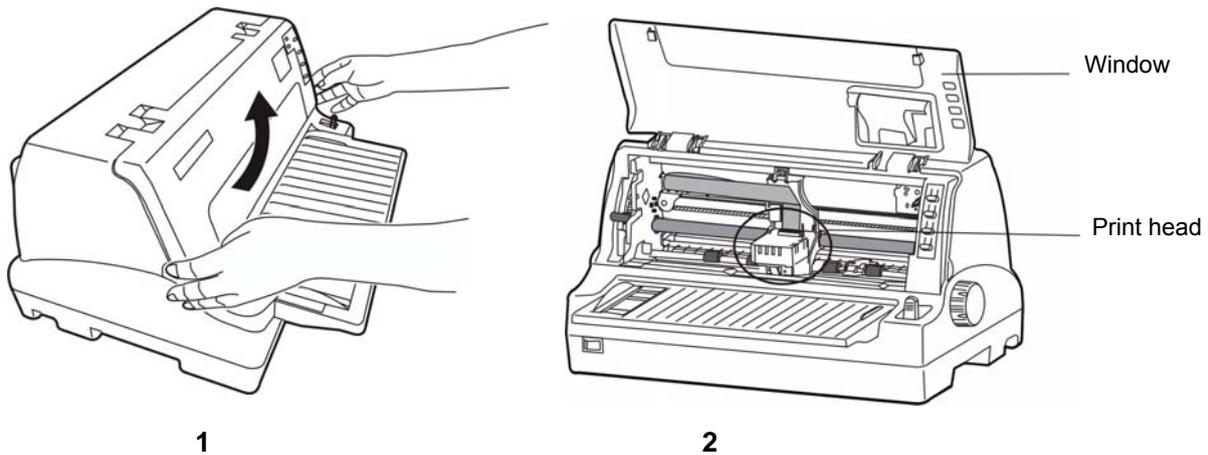

Figure 2-8 Opening the window
2. Hold the concaves of the window to open the window. (As figure 2-8 shown)
4. Slide the print head to the middle of the printer. (As figure 2-8 <2>shown)